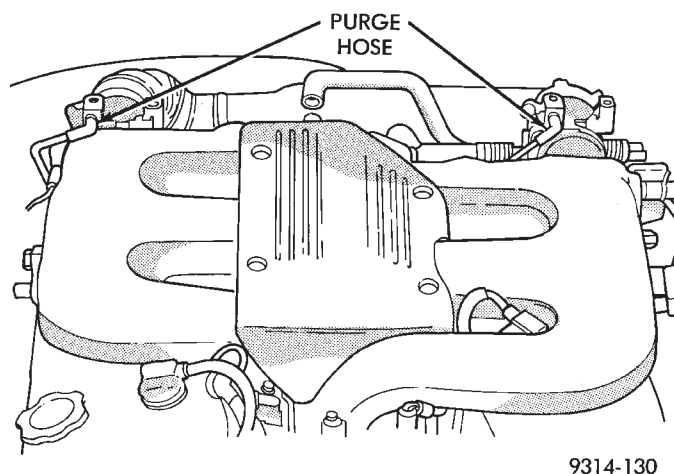

Fig. 27 Purge Hose—3.5L Engine
- (5) Disconnect purge hose from the nipple on each throttle body (Fig. 27).